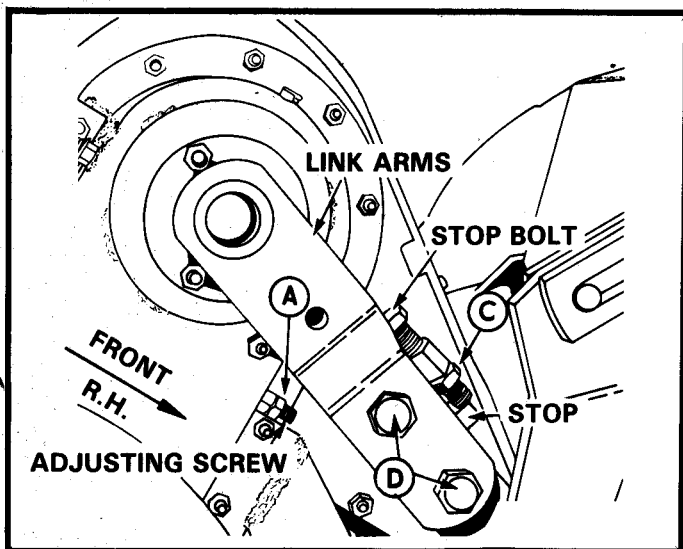

FIGURE 19
- Loosen Jam Nut A, Figure 19, and turn adjusting screw "in" until a slight drag is felt on the chain.
- Loosen Jam Nut "C", Figure 19.
- Loosen Bolts "D", Figure 19, enough so that the link arms can move up.